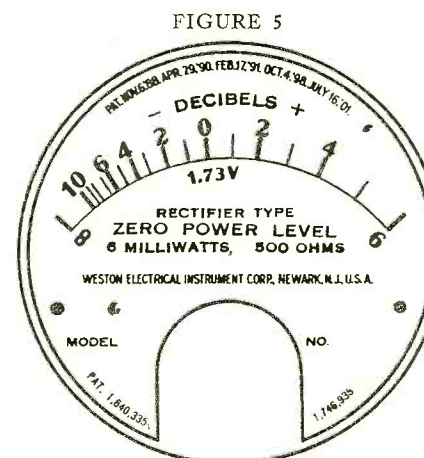
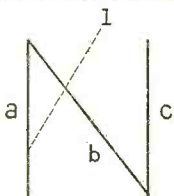

FIGURE 5
FIG. 1
For instance, one can use any milliammeter as an ohmmeter but then it takes a little arithmetic to find the resistance after readings are taken. This arithmetic will be eliminated when using the chart in Figure 5. The chart can also be applied to the slide-wire bridge, a construction is given for an ohmmeter scale employing a milliammeter in the two popular circuits.
In the February 1932 issue of RADIO NEWS, the formulas for the different kinds of charts were derived and here the N-chart was introduced. It consists of three linear scales in the form of an N or a Z and is useful in several kinds of proportion-problems and some forms of multiplication. As seen in Figure 1, the chart has the draw-back that it is hard to utilize the extreme end of the diagonal scale since the line, 1, does not intersect scale *c* within the limits of the paper. In some cases, it will be found that nearly one fifth of the scale *b* on each end cannot be used. Therefore, instead of using the N chart, a logarithmic arrangement was used in Figure 5, even though this meant the calculation of a special scale. It solves the same formula as the N-chart.
Referring to the chart of Figure 5, connect the meter reading on scale M (A) with the value of R on scale R and the intersection on scale X shows the value of the unknown resistance. For instance, if, as in our case, R is 4500 ohms and the meter went down to .2 ma. with the resistance X inserted, then the sample line shows that the resistance of X is 18000 ohms.
Figure 5. By selecting the proper shunt resistors, as indicated at R (Figure 1), the double hump effect is eliminated and a broadly peaked characteristic suitable for television tuner circuits is obtained
Suitable values of the circuit constants for a carrier frequency of 2800 kc., with the t.r.f. receiver shown in Figure 1, are as follows: All tuning condensers are to be of 100 mmfd. capacity, ganged, with small trimmers. The inductances (Cont'd on page 702)